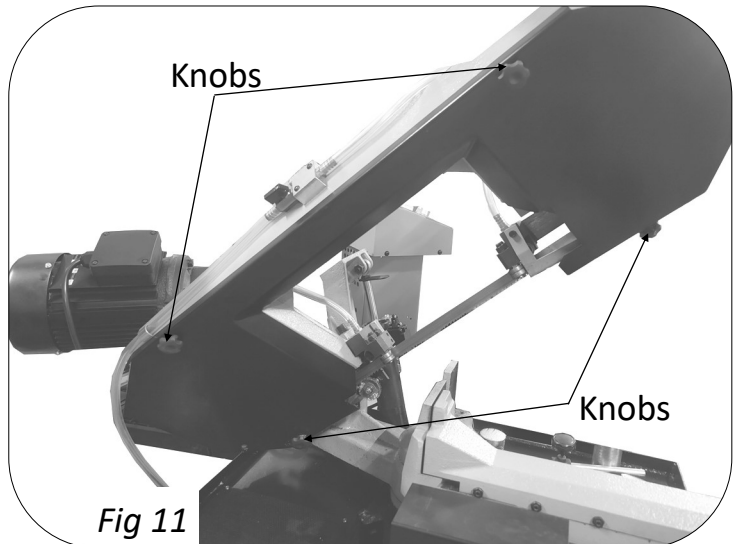

Fig 11
2. Open the blade cover by removing the 4 knobs (Fig 11).